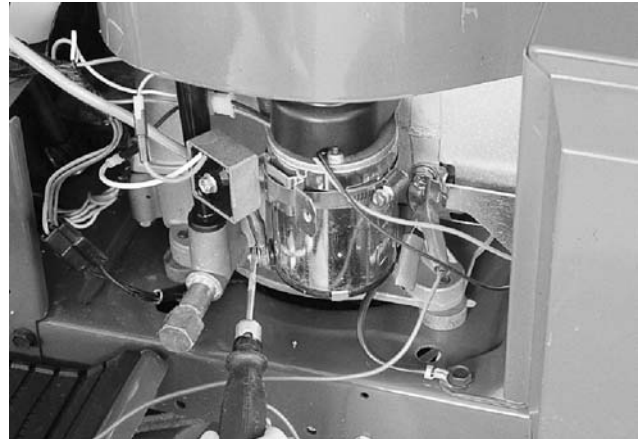

Figure 3-24.
11. Check for voltage at the starter motor by connecting one lead to your tester to the engine ground. Touch the other lead to the starter motor terminal. Turn the key to the start position. If voltage is present and the engine does not crank, all circuits are working properly and the problem is in the engine. Contact your authorized engine service dealer. See Figure 3-24.